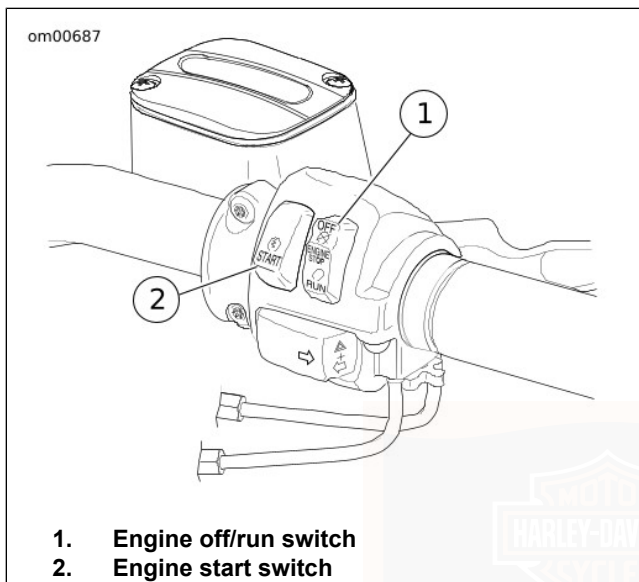

Figure 24. Right Handlebar Controls: VRSC Models
2. See Figure 24. Turn the off/run switch to RUN position.